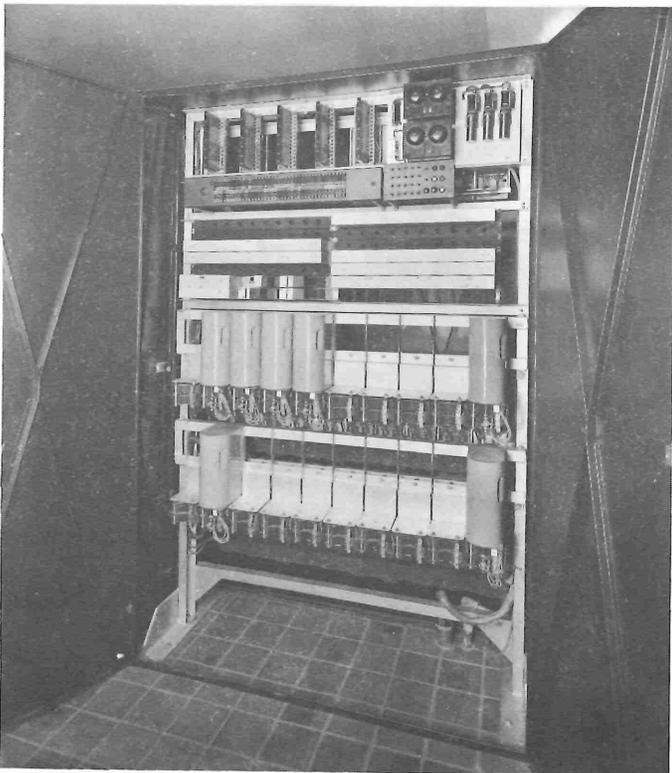

Fig. 2.
frame. The frame is approximately 5 feet long and 7 feet high for the No. 740-A P B X, and 3 feet long and 7 feet high for the No. 740-B P B X. Figs. 2 and 3 show the line finder side and selector-connector side of the frame, respectively, for the No. 740-A P.B.X. The equipment is similarly arranged in the No. 740-B P.B.X. Where it is desirable for appearance, protection or maintenance reasons to enclose the frame, a sheet steel casing may be provided.
4.2 On the line finder side of the frame (Fig. 2) are mounted two shelves of line finders, line and cut-off relays, group, sub-group alarm and test line circuits; also a fuse panel, terminal assembly, line finder jack, key and lamp apparatus and miscellaneous test and alarm circuit apparatus.